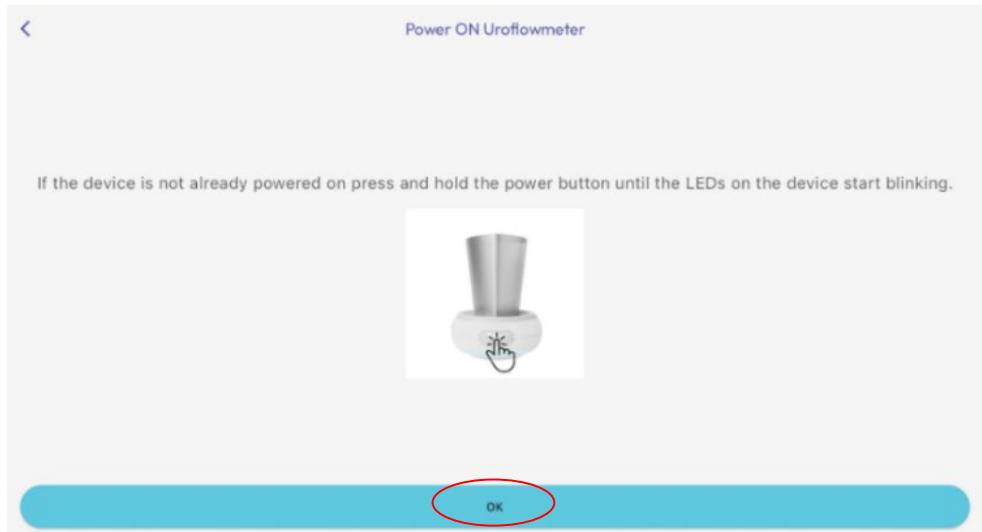

Figure 50. Set the Uroflowmeter to Awake state
3. Gently position a urine collection cup on top of the Uroflowmeter. Ensure the urine collection cup is placed as indicated in Figure 50.